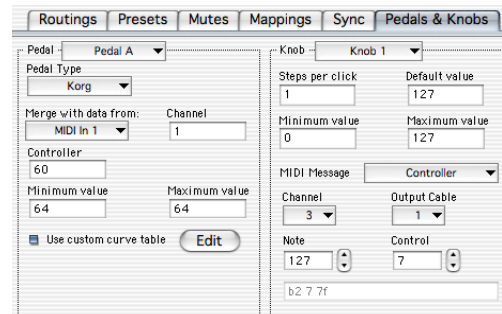

Figure 20: The Pedals & Knobs tab lets you program the MIDI Timepiece AV's front-panel knobs and its two pedal inputs.
- 4 Choose the pedal or knob that you want to set up from the menus at the top of the tab, as shown below in Figure 20: